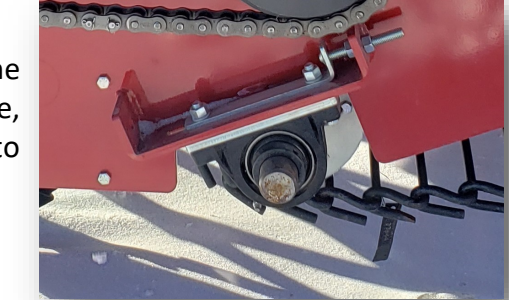

Figure 7-18: Apron Chain Front Idler Shaft
3. Adjustments on the apron chain tension are made by moving the front idler shaft, shown in Figure 7-18.